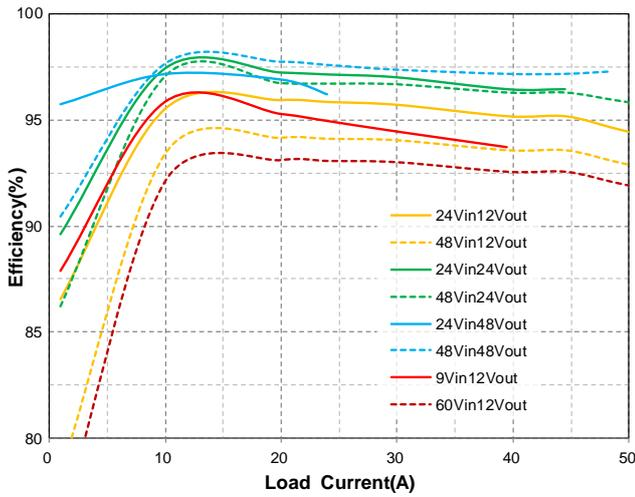

Figure 1: Efficiency vs. Load Current at Ta=25°C
- 1) Vset pin (9) is the default output voltage setting Pin. It can be disabled and set output voltage by PMBus. Refer to PMBus commands specifically.
- 2) H60SB0A050NRDE efficiency is 1.3% less than the H60SB0A050 other series when V_o close to V_{in}. They are equally efficiency when V_o not close to V_{in}. H60SB0A050 other series efficiency refer to the Figure 1 of P4.